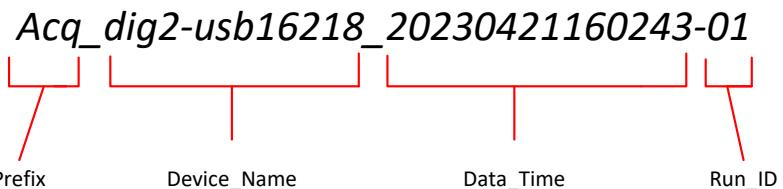

Fig. 23.2: Example of the output file name in case of *One file per Board* setting
- *One file per Board*: A single file for each connected board is created containing the waveforms of all the enabled channels (Fig. 23.2).
- *One file per Channel*: A different file is created for every channel of the board, including empty files for the disabled channels. (Fig. 23.2).